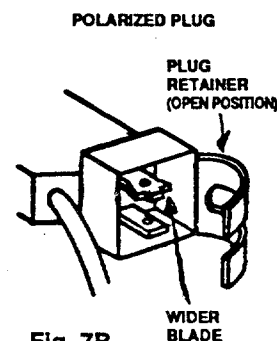

Fig. 7B
**NOTE** - Your mower is equipped with a polarized AC power plug (one blade of the plug is wider than the other), which will fit into the power extension cord connector only one way (See Fig. 7B). Should you be unable to insert the cord connector fully onto the switch box plug, try reversing the cord connector. Should the connector still fail to fit, contact your dealer for assistance. Do not defeat the safety purpose of the polarized plug.